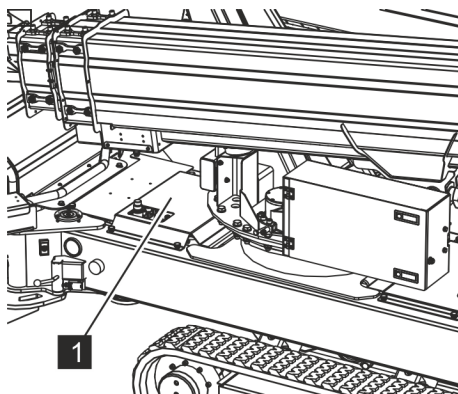

Fig. 163: Cover
1. ➔ Unscrew the cover (Fig. 163/1).